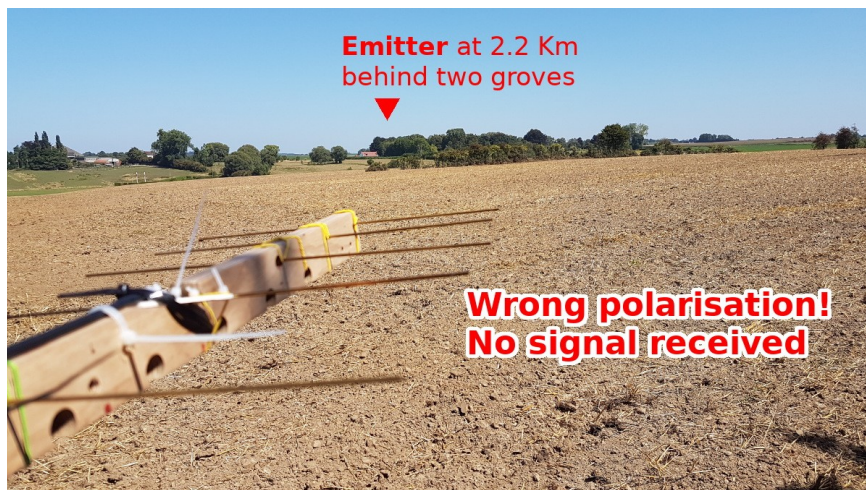

Figure 32: Yagi antenna kept horizontally
The figure 32 and 33 were taken at 2.2 Km from the emitter.
- The wrong polarization (figure 32) ruin the data transmission impossible.